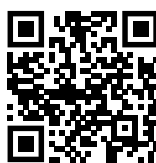

Fig. 172
- ▶ Open Liebherr SmartMonitoring Dashboard. (see Fig. 172)